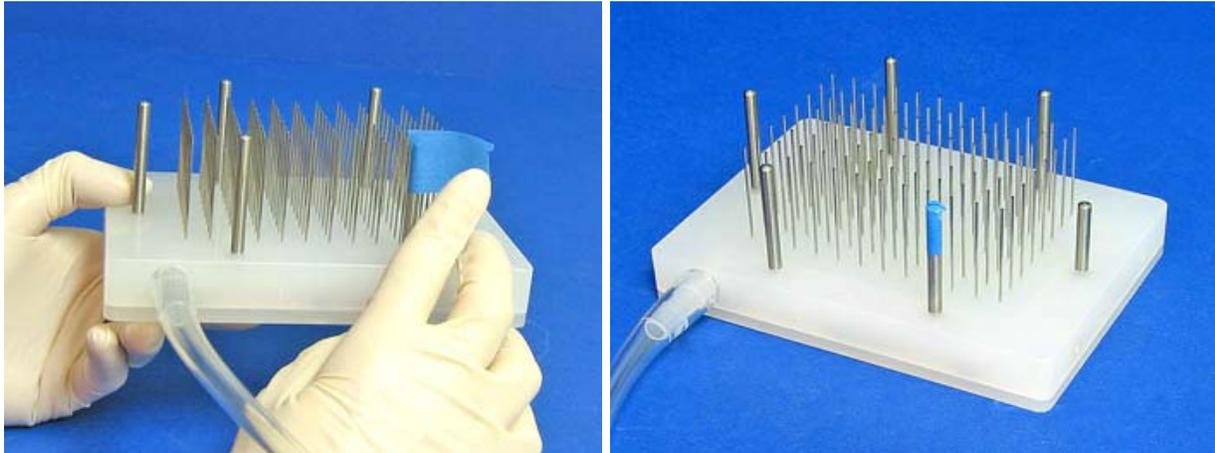

Figure 5. Wrap the guide pins with a layer of tape.
1. To increase the height of the aspirator, simply apply one layer of tape around the guide pins. (Shown in Figure 5.)